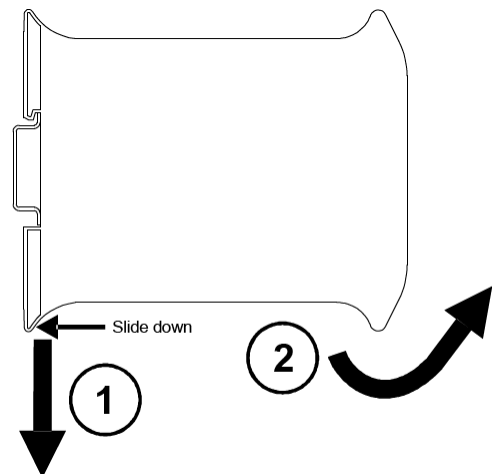

Figure 2-2: DIN rail removal
To remove the EGCP2-GCP-LSIM from the DIN rail, use a screw driver as a lever by inserting it in the small slot of the red hook and push the red hook downwards (1). Then remove the module from the rail by raising the bottom front edge of the enclosure (2) (refer to Figure 2-2).